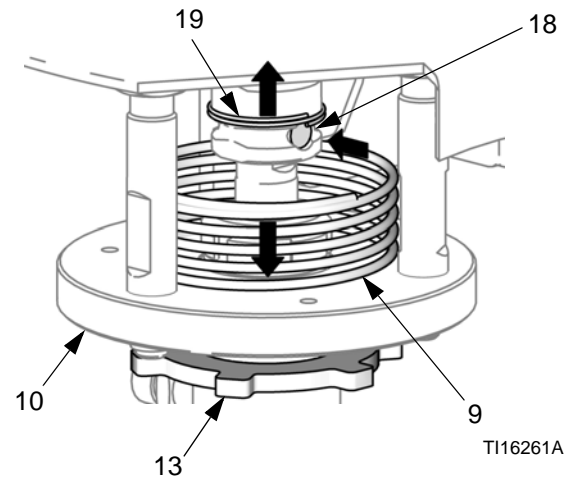

FIG. 6. Safety Spring and Connecting Pin
4. See FIG. 6. Push the safety spring (9) down and hold to access the coupling pin (18). Push the retaining spring (19) up and push out the pin, using a screwdriver or punch.
5. Loosen the jam nut (13).